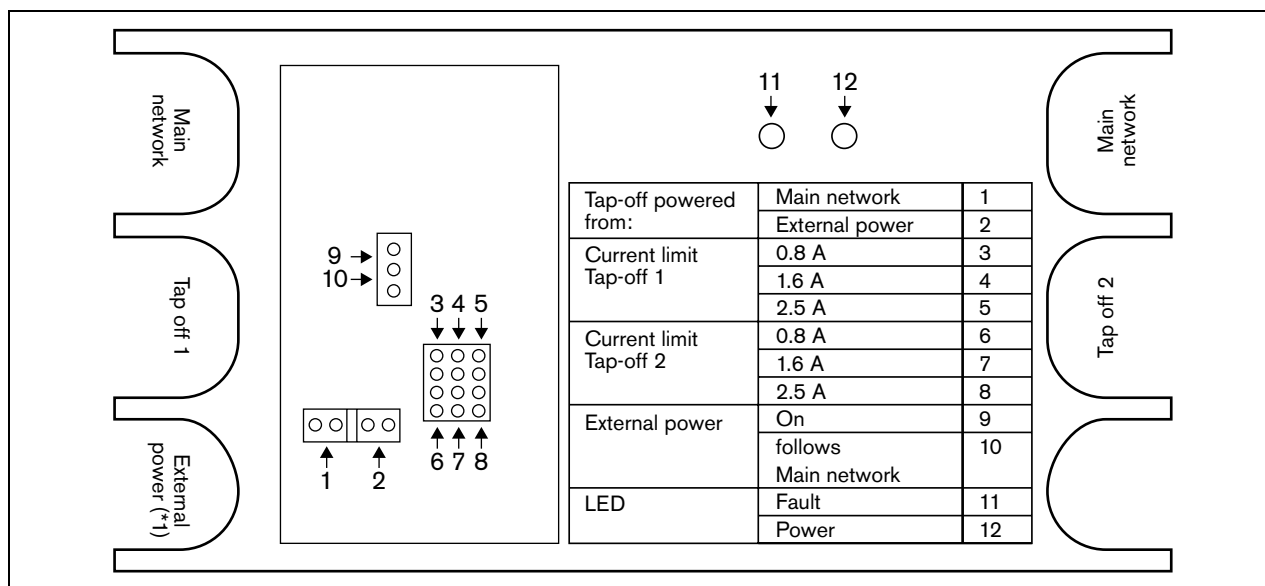

figure 41.2: Label inside network splitter
- 4 **Lid** - Gives access to the controls inside (refer to section 41.3). The rear side of the lid contains a label with an explanation about the internal settings (refer to figure 41.2).
The rear of the cover of the network splitter shows a label that gives data of the internal connections (refer to figure 41.2). You can change the internal connections with the jumper blocks inside the network splitter.